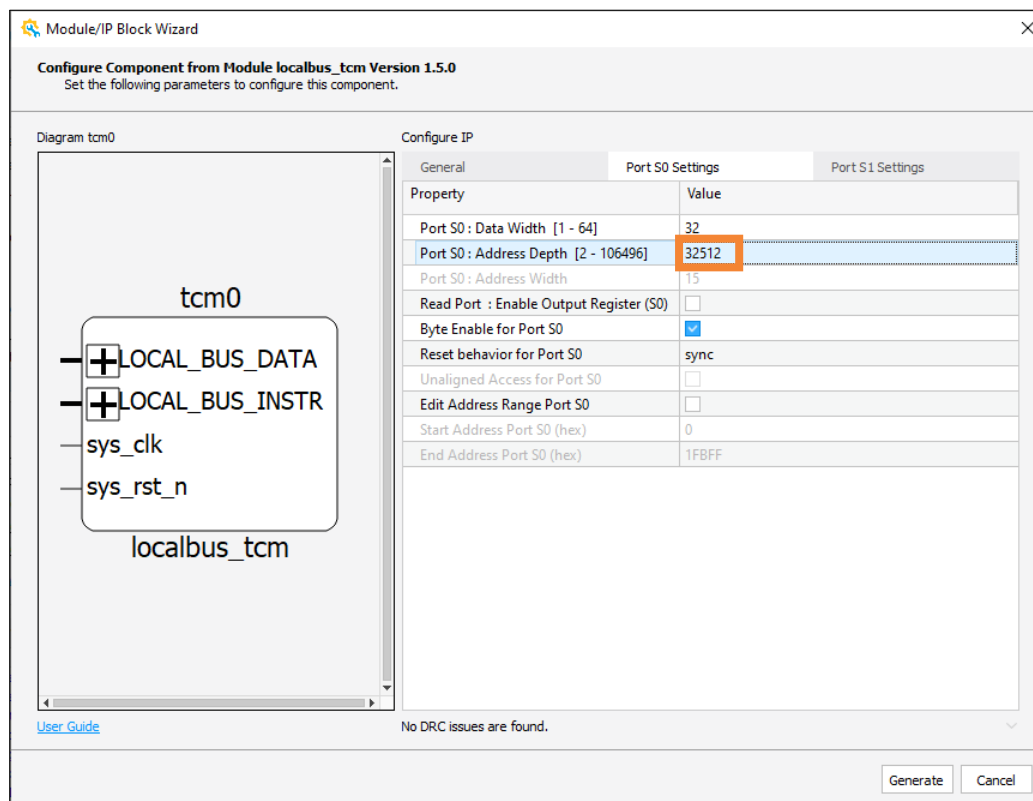
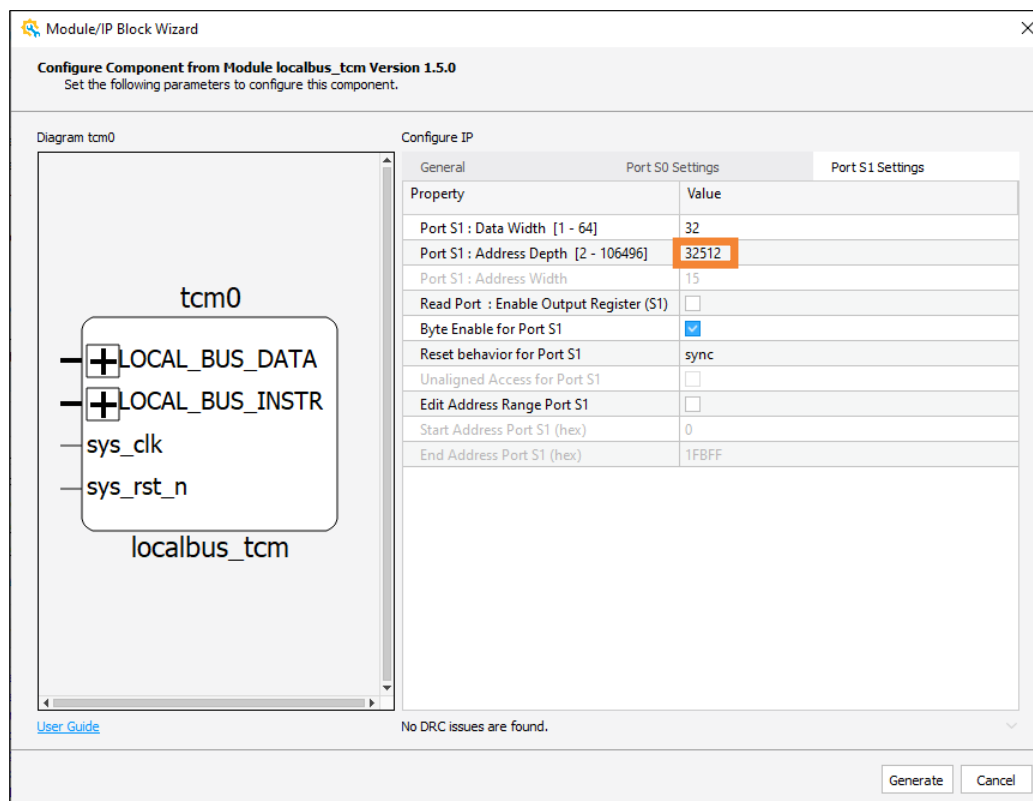

Figure A.11. Modifying tcm0\_inst Port S0 Address Depth Settings
Figure A.12. Modifying tcm0\_inst Port S1 Address Depth Settings
3. Set the Port S0 and Port S1 address depth to an adequate value. In the error shown in Figure A.6, we need 0x1F8D0 bytes, which needs to be 1k aligned. Consequently, the minimum size needed is 0x1FC00 bytes, equivalent to 0x7F00 DWORDs or 32512 in decimal. Refer to Figure A.11 and Figure A.12 for the settings described in this step. click **Generate**.